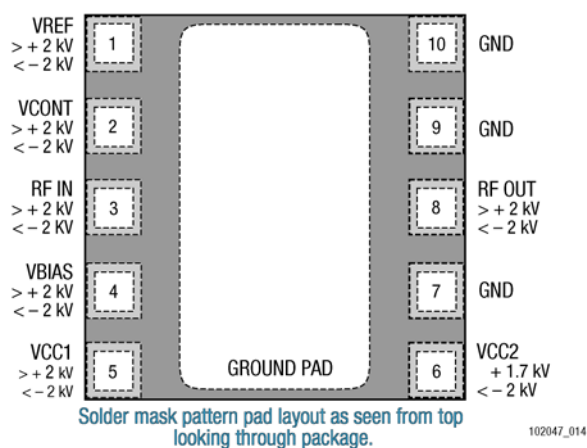
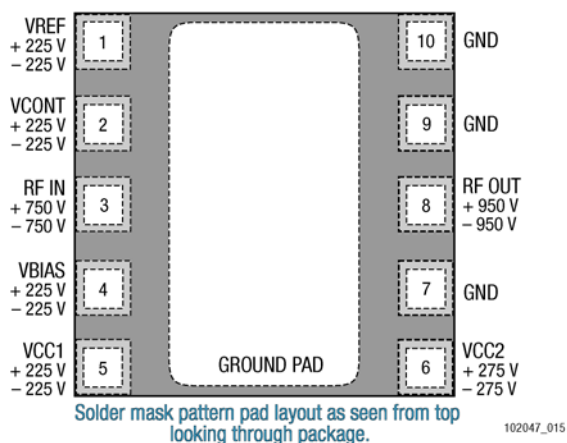

Figure 12. ESD Sensitivity Areas – Human Body Model (Top View)
Figure 13. ESD Sensitivity Areas – Machine Model (Top View)
The CX77144 is a Class I device. Electrostatic Discharge (ESD) immunity levels for each pin of the CX77144 product are shown in Figure 12, using the Human Body Model, and in Figure 13, using the Machine Model.
The numbers in Figure 12 specify the ESD threshold level for each pin where the I-V curve between the pin and ground starts to show degradation. ESD testing was performed in compliance with MIL-STD-883E Method 3015.7 using the Human Body Model (HBM).
The numbers in Figure 13 specify the ESD threshold level for each pin where the I-V curve between the pin and ground starts to show degradation. ESD testing was performed in compliance with JESD22-A115B using the Machine Model (MM) and has met the classification criteria for Class B